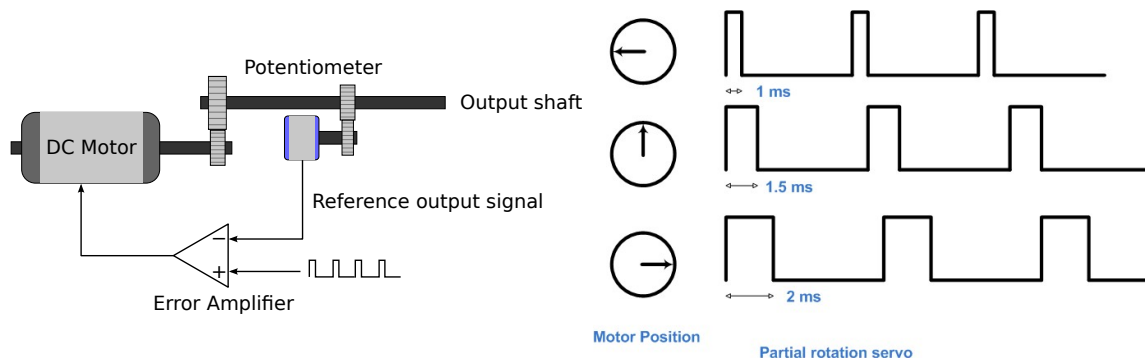

Figure 3: Working principle of servo actuators.
Servo actuators are widely used in robotics. Most servos have the same standard three-wire connection: two wires for a DC power supply and one for control, carrying the PWM signal. The frequency of the control signal is 60Hz and the width of positive pulse controls the rotation angle. It is important to note that the huge majority of servos have the same neutral position at 1.5ms pulse width. The working principle of servos is illustrated in figure 3.
- T.2.7 (5 points)** Correctly set the upper and lower pulse width limits according to figure 3. You are encouraged to use safety error margins.